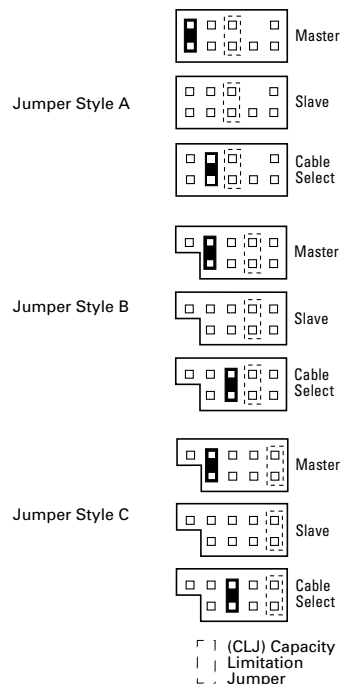

Figure 6. Jumper Positions
3. Place the jumper as in Figure 6 for your drive in the position you have selected.
The **cylinder limitation jumper** (CLJ) makes the hard drive's capacity appear smaller to the system BIOS to eliminate startup problems that can occur when the BIOS cannot detect a hard drive larger than 32 GB. The CLJ option can be used in conjunction with the cable select, master, or slave options. If your system is a Pentium II or older, you will probably need to use this jumper. The dotted rectangle in each of the illustrations in Figure 6 indicate where the cylinder limitation jumper should be placed if necessary. See “Frequently Asked Questions” on page 25 for more information.